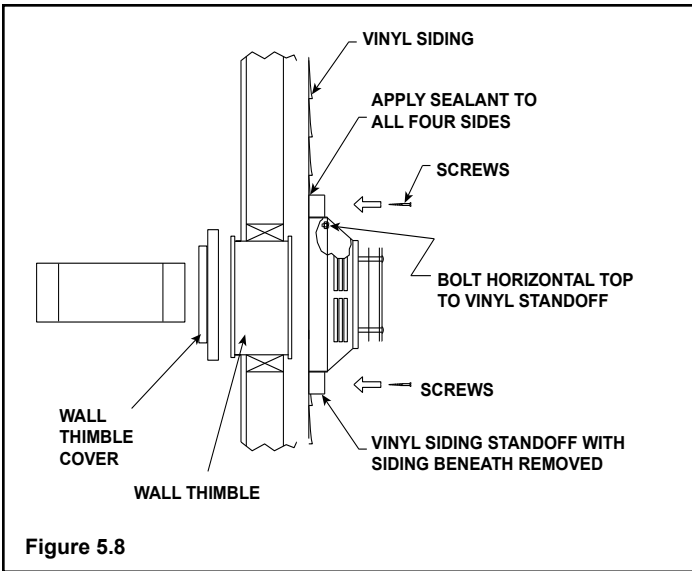

Figure 5.8
10. If you are installing termination cap HHW2, the pipe will be off center on flashing). Ensure that proper clearances to combustible materials are maintained. If you are using an approved termination cap other than HHW2 (part #841-0670) on a building with vinyl siding, a vinyl siding standoff should be installed between the termination cap and the exterior wall (**Figure 5.8**, on the next page). Follow manufacturer's instructions for attaching the vinyl siding standoff to the horizontal termination cap. The vinyl siding standoff prevents excessive heat from possibly melting the vinyl siding material. The vent terminal cap shall not be recessed into a wall or siding. Remove siding from the area where the standoff will be located.